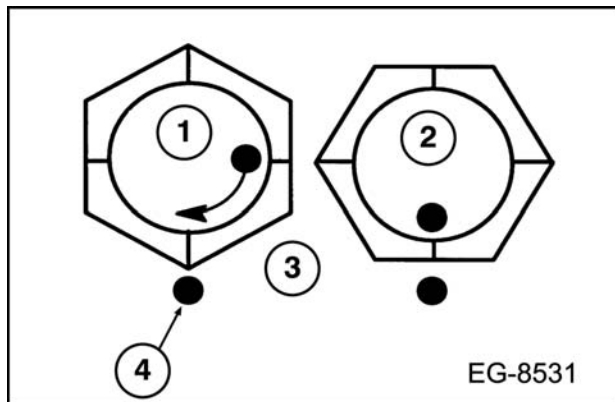

Figure 397 Crankshaft main bearing bolt
- d. Rotate each crankshaft main bearing bolt (Figure 397) 90 degrees (1/4 turn).